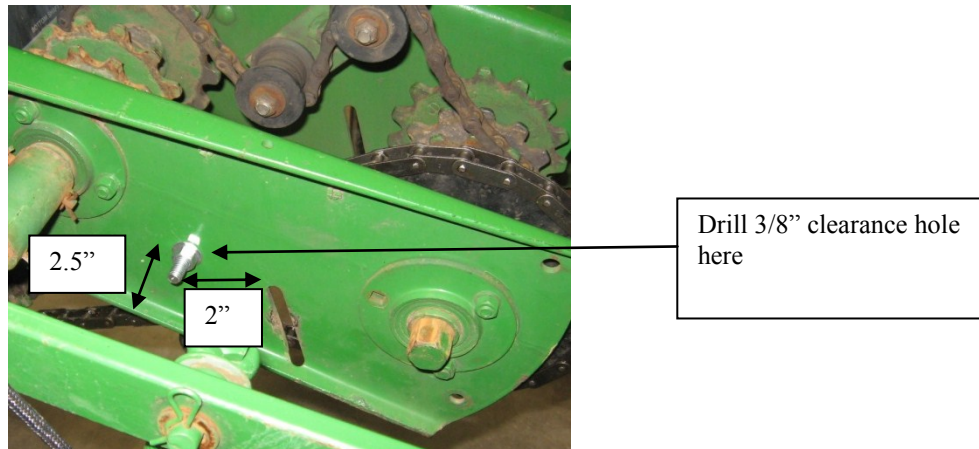

FIGURE 2 LEFT SIDE VIEW OF TRANSMISSION PLATE SHOWING HOLE LOCATION
Step 1. – Remove Chain(A), Idler (B), and 15 tooth(C) sprocket. Removal of sprocket will require removing cotter pin on left side of shaft(D, not shown) and sliding shaft to right.
Step 2. – Drill hole on side of transmission plate as shown in Figure 2.(location is not extremely critical as plate has adjustment slot provided).
Step 3. Install new sprocket (E) on shaft(D) using washers as needed to fill any extra space. Install cotter pin in shaft.
Step 4. Install chain(F) around sprocket(E) and clutch sprocket(not shown) on counter-shaft. You will most likely need 47 links plus a connecting link. The chain provided has a few extra links, so you will likely need to remove a few.
Step 5. Install idler(H) on plate(G) into the square hole using carriage bolt, a flat washer on either side of the spacer, steel spacer, plastic idler, lock washer & nut.